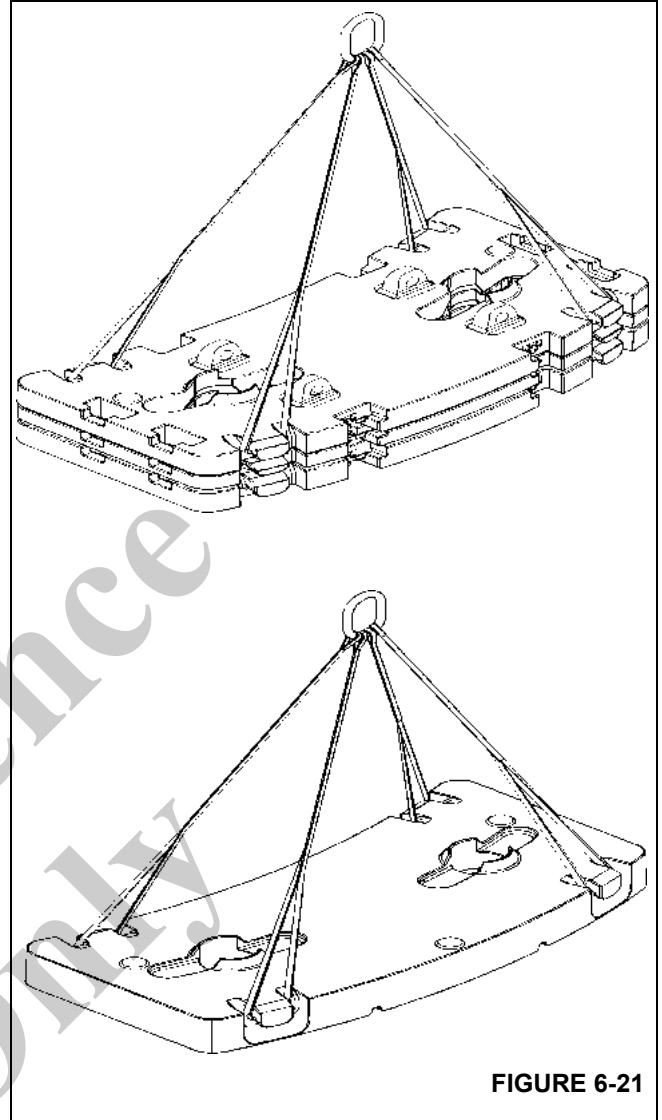
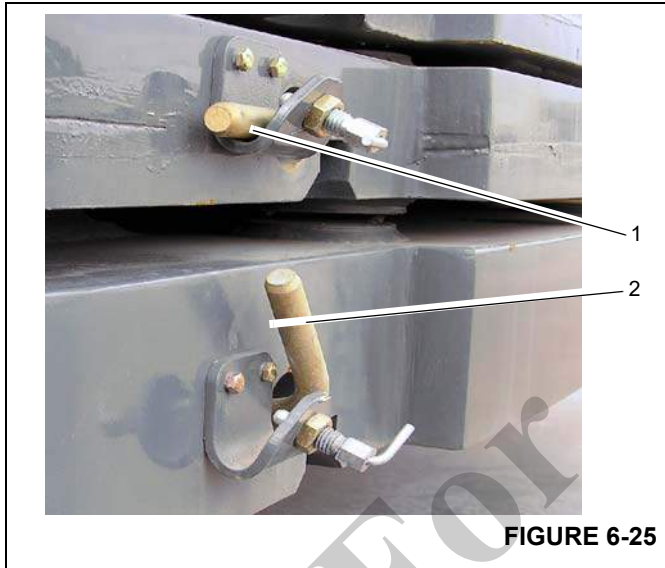

FIGURE 6-21
FIGURE 6-25
The 3,000 lb and two 5,000 lb counterweights can be combined and lifted as shown in (Figure 6-21). Make sure that all locking pins are in the locked position as shown in (Figure 6-25). Place the sling straps on the top counterweight.
When lifting the 3000 lb and 5000 lb counterweights, ensure ALL locking pins are completely installed in the lock position (Figure 6-25) before lifting the counterweight sections on and off of the crane. DO NOT leave the locking pins in the unlocked position while lifting the counterweight sections on and off of the crane. This ensures the counterweight sections are properly locked together when lifting the 3000 lb and 5000 lb sections at the same time. This also ensures that the locking pins do not contact the boom rest or other objects in the work area and become entangled.
The 10,000 lb counterweight section can be lifted as shown in (Figure 6-21). Do not lift this plate with the 3,000 lb, two 5,000 lb sections or with the 3,000 lb tray. Lift each 10,000 lb plate separately.
The locking pins (Figure 6-25) are shown in both the Locked (1) and Unlocked (2) position. To place the pin in the Unlocked position, disengage the spring-loaded retainer pin. Rotate and remove the locking pin from the holder.
into the slots on the mounting bracket. Ensure all the locking pins (4), (Figure 6-26) are in the locked position as shown in (Figure 6-25).